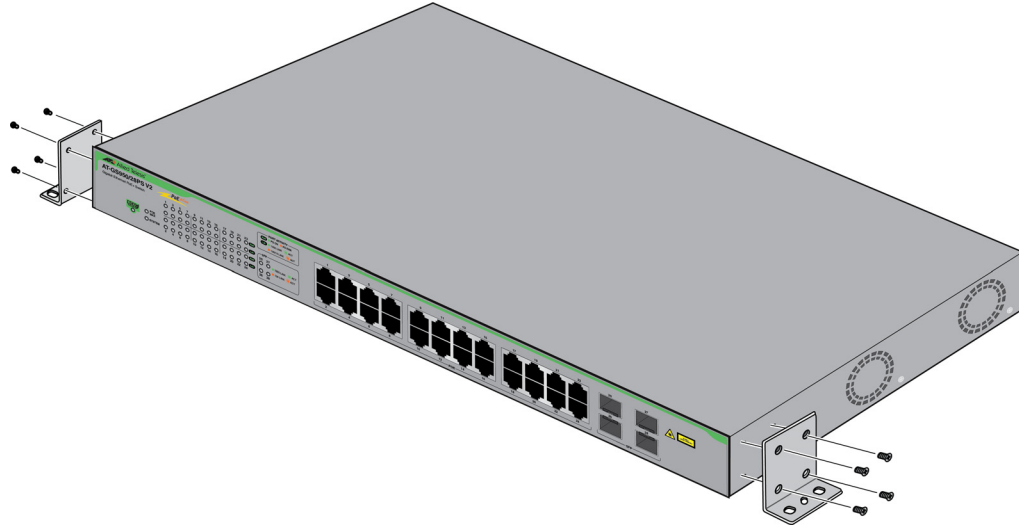

Figure 30. Installing the Brackets to the Switch for Wall Installation
2. Install the two brackets to the sides of the unit with the eight screws that come with the switch. Refer to Figure 30 on page 66.